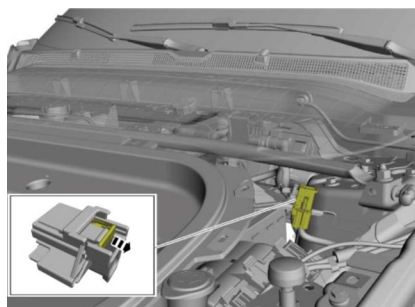

Figure 2
3. Release the connector position assurance (CPA) clip. [Figure 2]